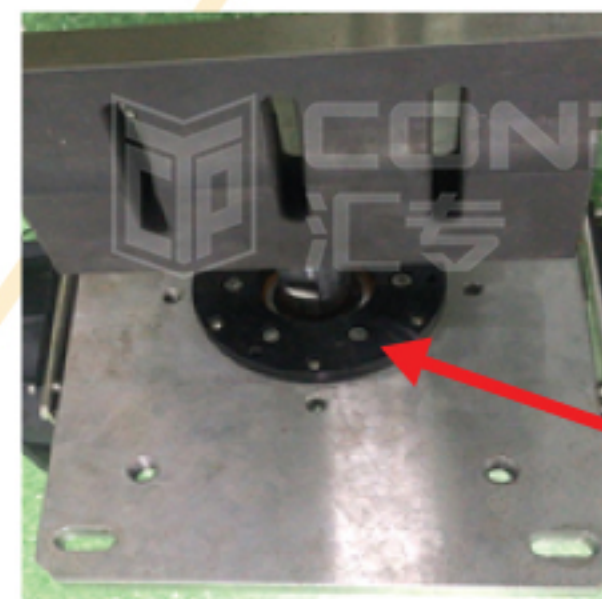

Figure 11
(9) Tighten the screws up after assembling the transducer with the mechanical connecting plate. (As shown in Figure 11).